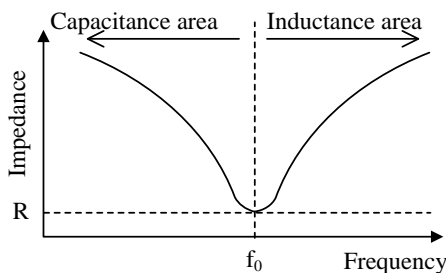

Figure 9-2. Impedance of Resonant Circuit
When the frequency,  $f$ , changes, the impedance of resonant circuit will change as shown in Figure 9-2.
When  $2\pi fL = 1/2\pi fC$ ,  $\hat{Z}$  of Equation (2) becomes the minimum value,  $R$  (see Figure 9-2). In the case,  $\omega$  is calculated by Equation (3).